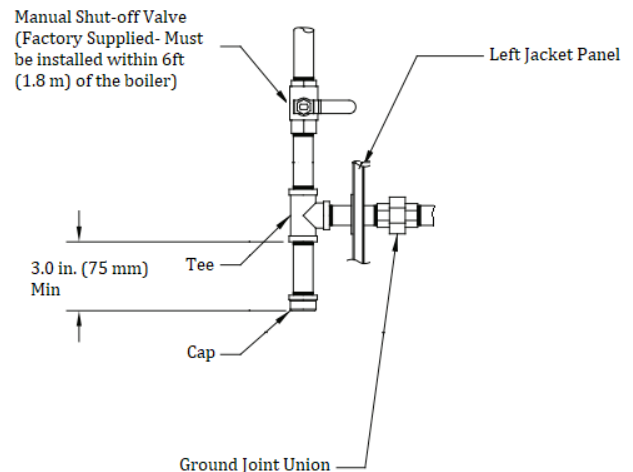

Figure 19: Recommended Gas Piping
6. A sediment trap must be provided upstream of the main gas valve (See Figure 19).